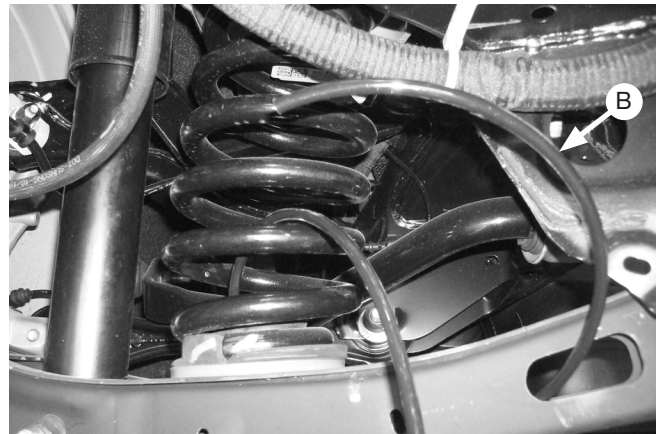

Fig. 8
- Route the air line (B) into the coil spring, down through the hole in the lower control arm and, while feeding it through, direct the air line toward the center of the vehicle (Fig. 8). Route the air line out the front of the large rectangle hole in the lower control arm.